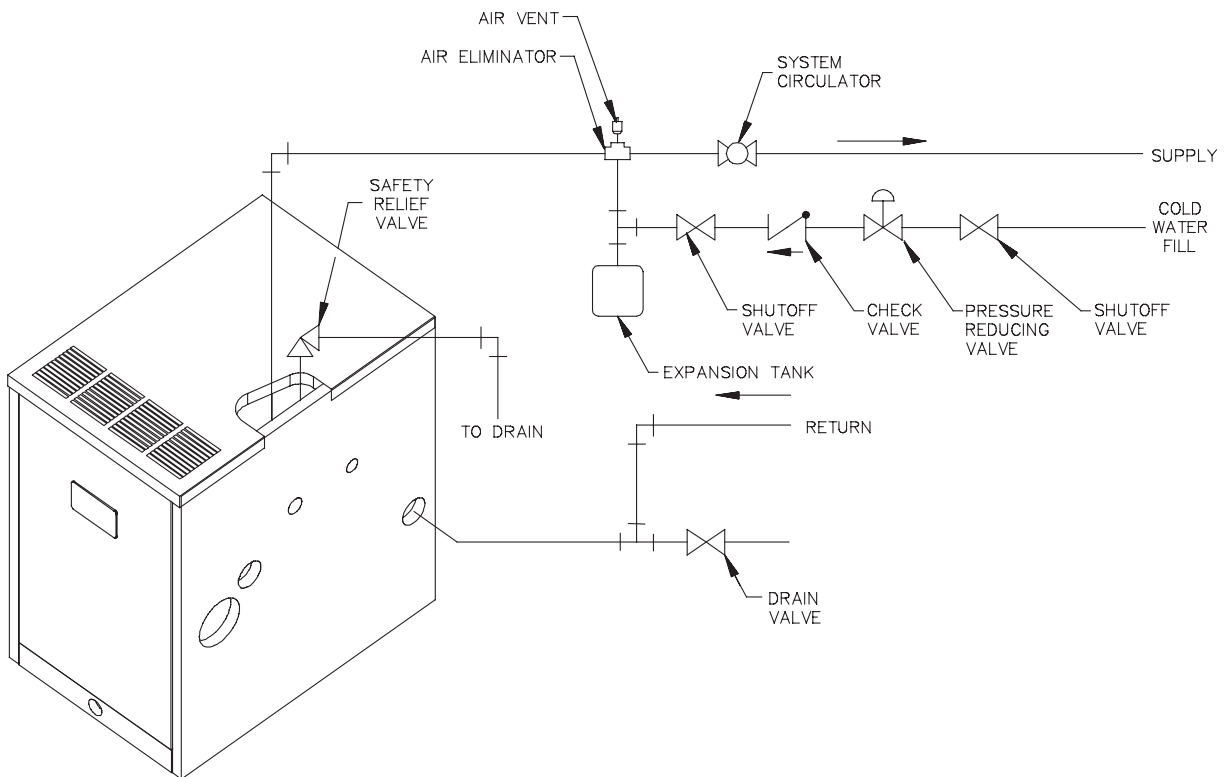

Figure 3.1: Supply and Return Piping
1. Size the supply and return to suit the system. A typical piping arrangement is shown in Figure 3.1. Refer also to the Hydronics Institute Residential Hydronic Heating Installation Design Guide for additional guidance during water piping installation.
5. If desired, install the circulator in the alternate location shown in Figure 3.1.
Refer back to Figure 3.1 for typical expansion tank piping.